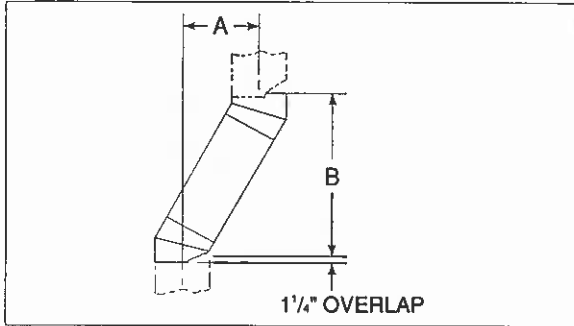

Figure 8
1. Measure how far the chimney needs to be shifted to enable it to avoid the overhead obstacle. See Figure 8, dimension "A".
Example: Your "A" dimension from Figure 8 is 14 1/2". Using Table 1, the dimension closest to but not less than 14 1/2" is 14 5/8" using a 30° offset/return. It is then determined from the table that you would need 33 1/8" (Dimension "B") between the offset and return. The chimney components that best fit your application are two SL312's.